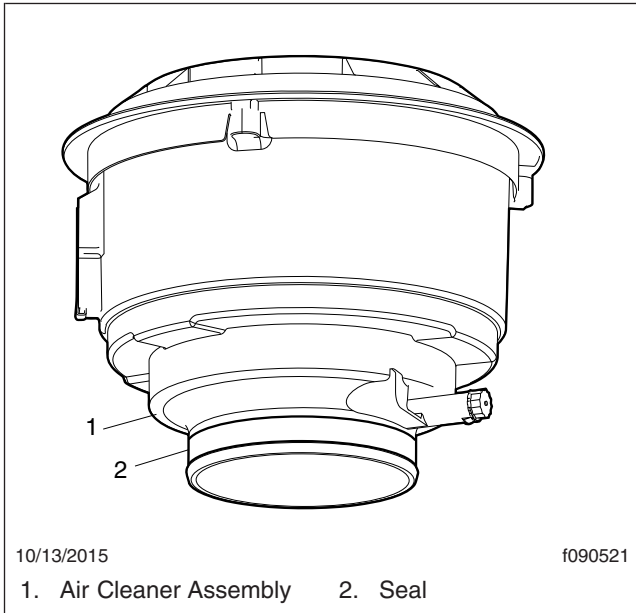

Fig. 4, Assembly, Air Intake Seal and Housing
4. Install the air intake seal on the air cleaner outlet as shown in Fig. 4.